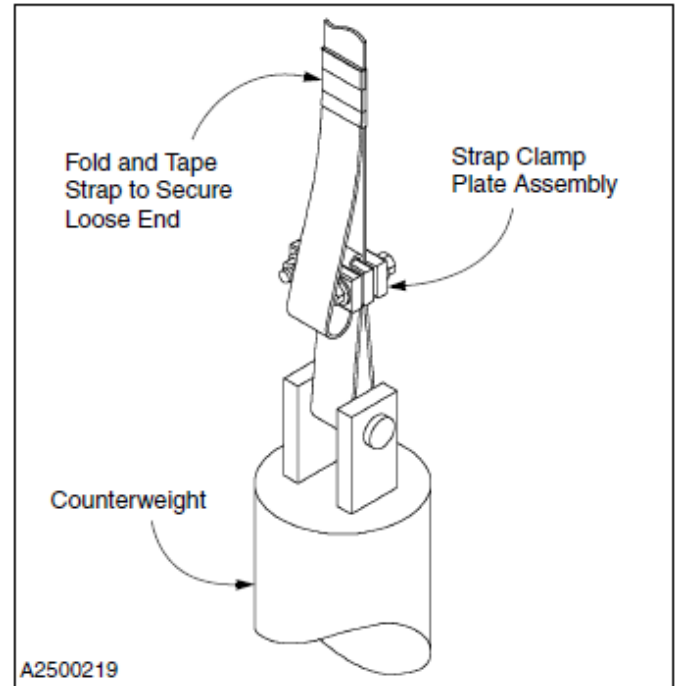

Figure 56
7. After all adjustments are complete, cut off any excess strap to within 6 in. of the strap clamp plate assembly. Then fold and tape the loose end of the strap to the main length of strap. (See Figure 56)